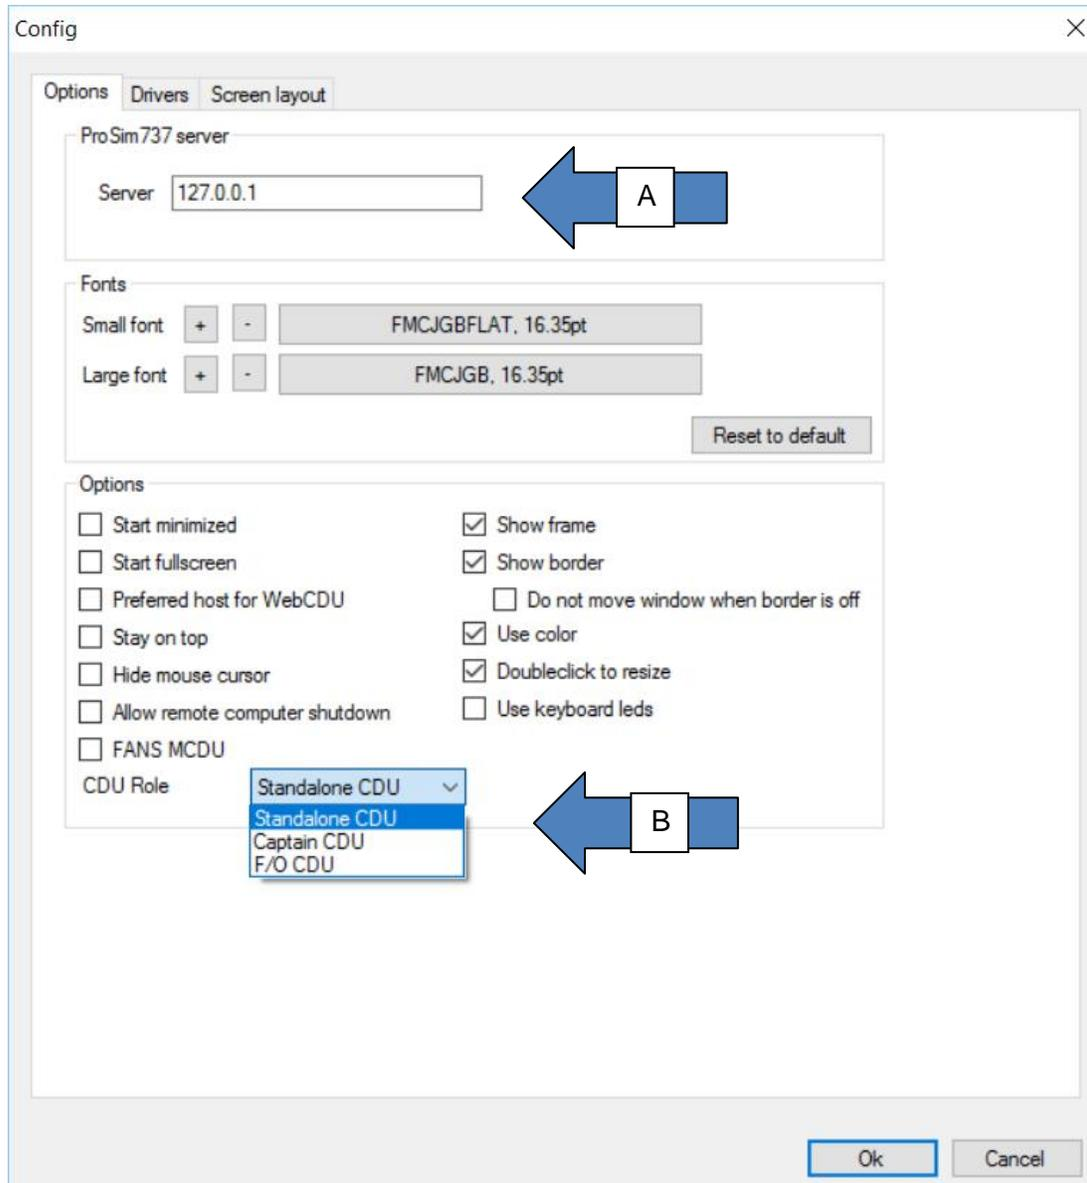

Fig.14
- 1) Right-click on the CDU screen and select Config. (Fig.14)